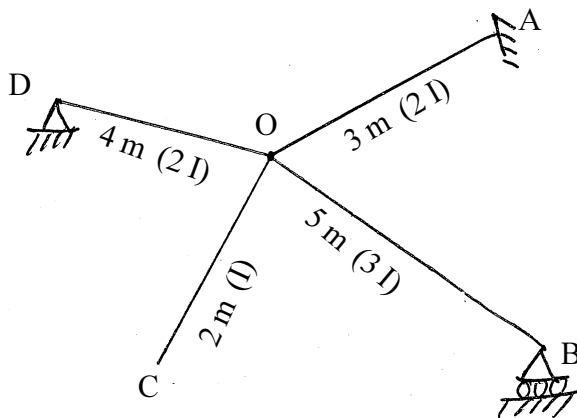

Figure 3
- e) Calculate the distribution factor at joint O for joint as shown in figure 3. 4